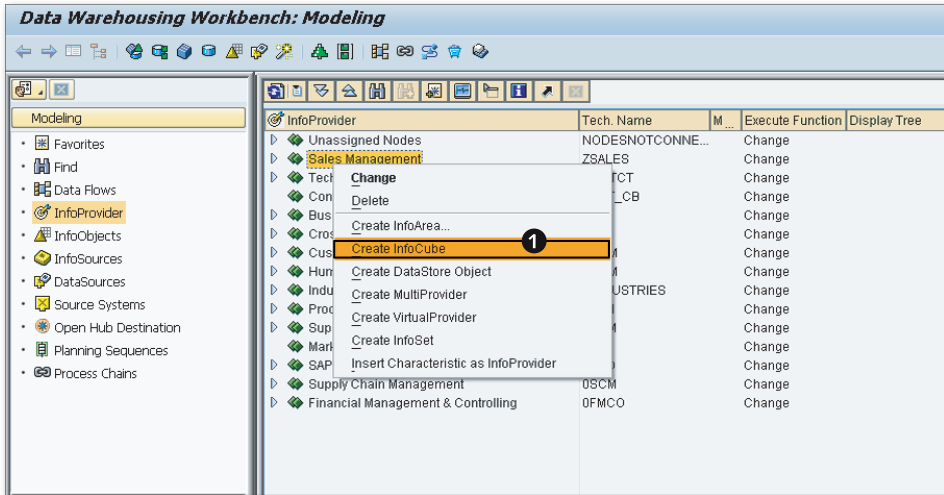
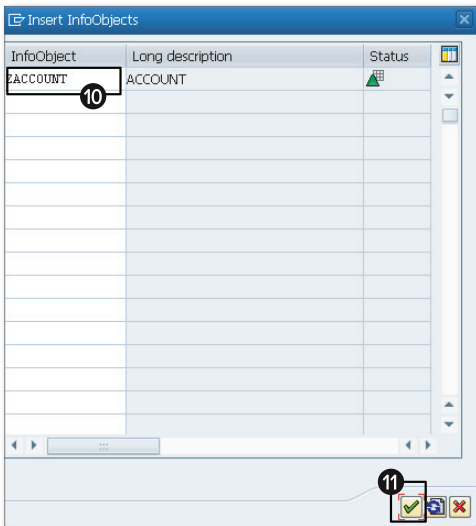

Figure 3.14 Creating an InfoCube—Part A
Figure 3.18 Create InfoCube—Part E
The following are the steps and concepts you should follow to create the Sales InfoCube. The discussion includes creating dimensions, assigning characteristic InfoObjects to dimensions, and assigning key figures to the key figure folder. This process is illustrated in Figure 3.14 through Figure 3.18. Let's get started.
3. Right-click on the SALES MANAGEMENT InfoArea you created earlier, and select CREATE INFOCUBE from the context menu (see Figure 3.14, ❶).
2. In the INSERT INFOOBJECTS window, select the InfoObjects you want to include in the dimension (Figure 3.18, 10 and 11) or the key figures you want to include in the KEY FIGURES folder (not illustrated), and click on ENTER.